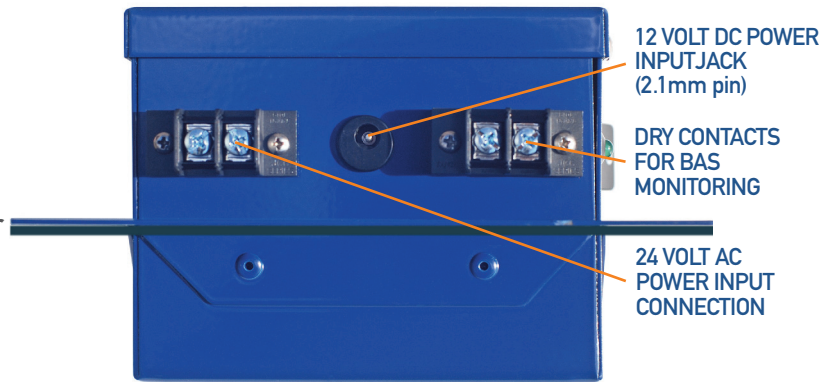

FIGURE 2 – Left view of ionizer
- 24V AC power may be connected directly to the terminal block on the outside of the unit. The hot and neutral wires can be connected to either screw terminal. (See figure 2)
The model 7100, 7200, 7300 and 7400 ionizers include a monitoring circuit to verify operation status. The circuit consists of a relay with isolated normally open contacts. The contacts remain open whenever the ionization unit is not powered or if there is a fault in the equipment. The contacts close whenever the ionizer is energized and producing ions. Connect the monitoring control wires to the Building Automation System (BAS) dry contacts on the unit. (See figure 2)